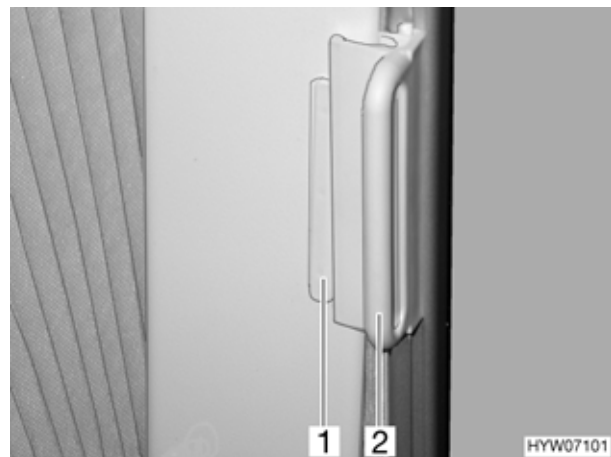

Fig. 53 Roman shade, open
- Open the Roman shades for the driver's and passenger's window and push the guiding handle (Fig. 53,2) onto the cap (Fig. 53,1).